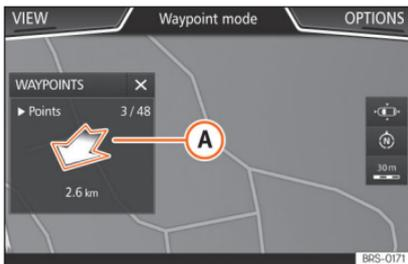

Fig. 242 Offroad route guidance mode
- The general direction of travel is indicated straight ahead by direction arrows in the Infotainment System pop-up window >>> Fig. 242 A.